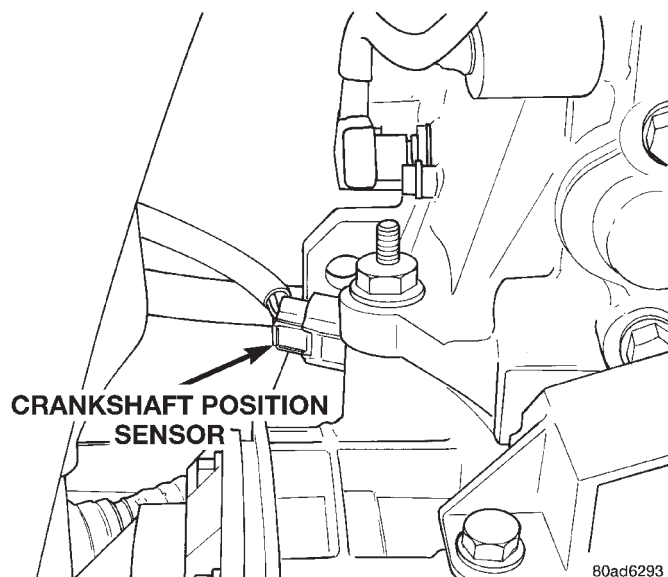

Fig. 41 Crankshaft Position Sensor
(14) Check fuel supply tube connections for leaks.
(15) Verify electrical connector is attached to the crankshaft position sensor (Fig. 41).